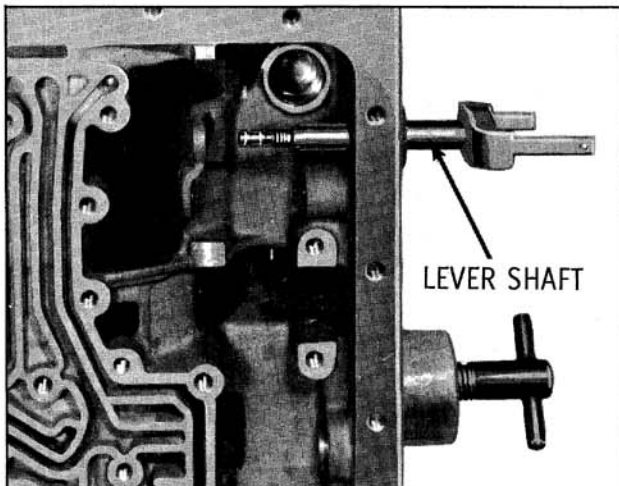

Fig. 6-481 Installing Selector Lever
2. With a twisting motion, insert outer range selector lever into case. (Fig. 6-481) Use new seal.